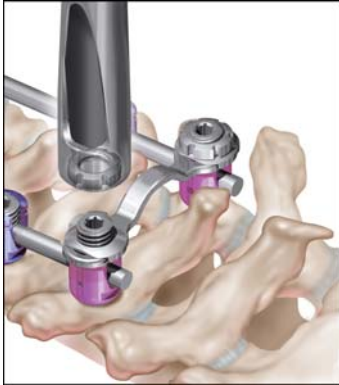

Figure 25d
- Utilizing the Outer Nut Driver, engage the Outer Nut (Figure 25d) and tighten onto the Double Inner Set Screw while stabilizing the Double Inner Set Screw (Figure 25e).